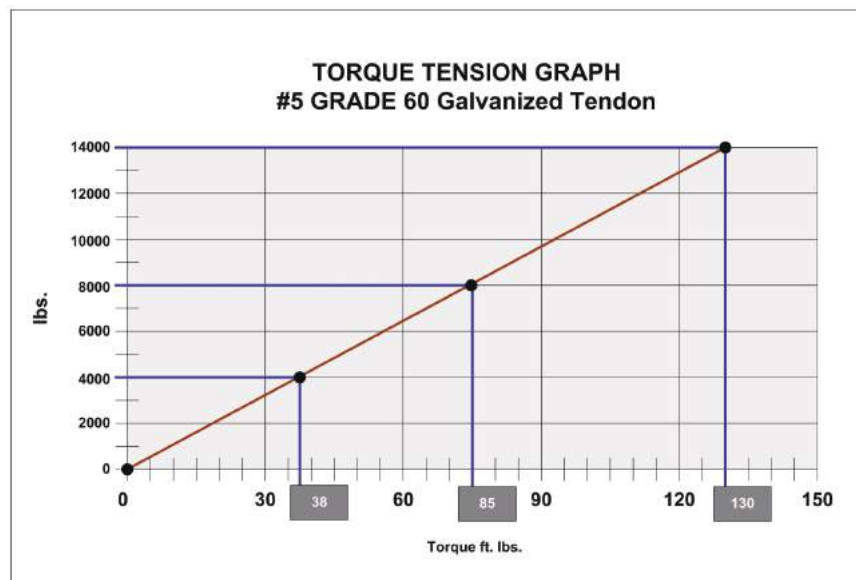

Fig 4.39
4. Torque hex nut to the recommended tension (Fig. 4.39).